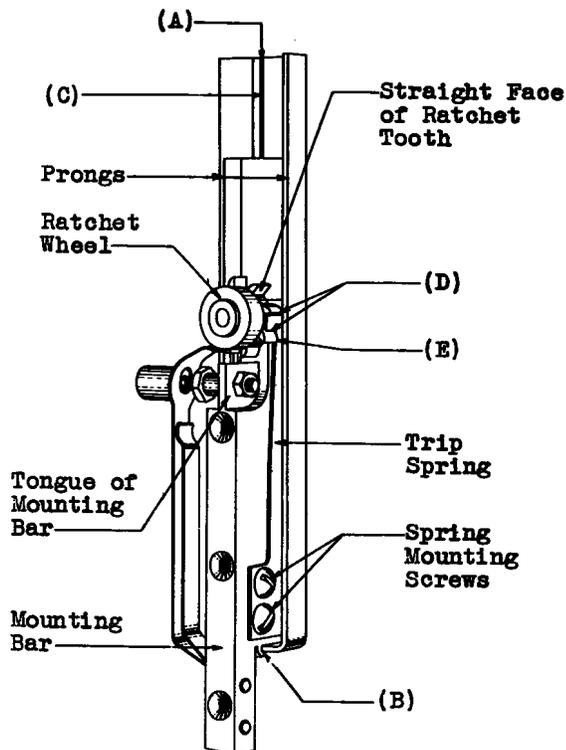

Fig. 1
2.04 Visibility - Fig. 1 (A) - With the fork in the normal position, there shall be no space visible between the edges of the shields when viewed perpendicularly to the direction of vibration. Gauge by eye.
*2.05 Position of Vibrating Element - Fig. 1 (B) - The vibrating element shall be rigidly mounted on the mounting bar. Gauge by eye and feel.
*2.06 Clearance Between Shield Faces - Fig. 1 (C) - The clearance between faces of the shields on the prongs shall be: Min. .010" Gauge by eye.
(a) Fig. 1 (D) - The tangs on the trip springs shall engage squarely with the ratchet teeth on either side of the tang. Gauge by eye.
(b) Fig. 1 (E) - The side of the trip spring nearer the ratchet wheel shall clear the wheel by approximately 1/32" when the ratchet wheel is pressed against the shoulder in any position about its axis. Gauge by eye.